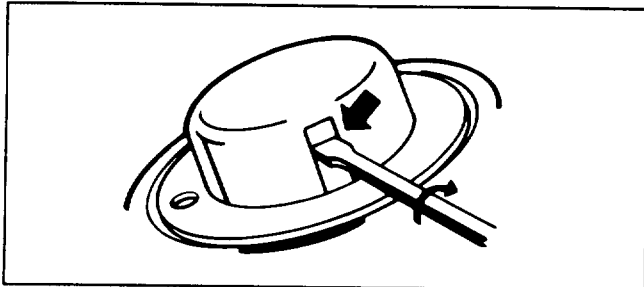

Figure 18
1. To remove empty spool, insert widest possible blade screwdriver snugly into one of two window slots. With screwdriver pressed firmly into window slot, twist screwdriver 1/4 turn. Spool will snap off (Fig. 18).